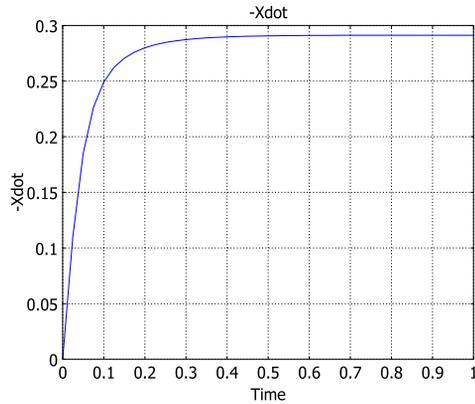

Figure 6-5: Falling velocity (m/s) of the grain versus time. After the solution time of 1 s, the velocity approaches the terminal velocity.
Figure 6-5 shows the falling velocity of the grain as a function of time.
- 10 Click **Apply** to reproduce the plot in Figure 6-5.